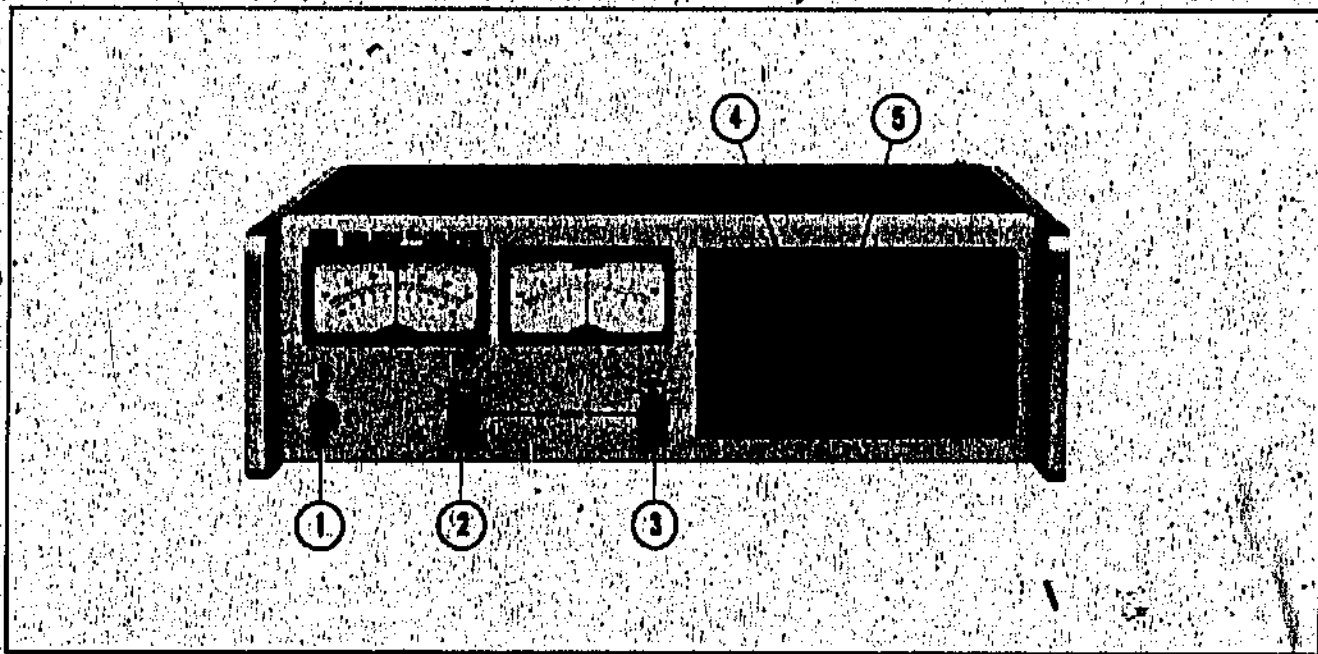

Figure 3-2. Operating Controls and Indicators
3-4 To turn on the unit, set the LINE switch (item ① in Figure 3-2) to ON. The pilot light directly above the LINE switch should light. Fuse 1 (2A at 115Vac or 1A at 230Vac) protects the main power supply.
3-18 With the STORAGE switch (4) (Figure 3-2) in the STORE position, the voltage, sign, range, and current latch program data are stored when the gate is received from the computer. In the DISABLE position, indicator DB1 (5) lights and the data are processed as soon as they are received.